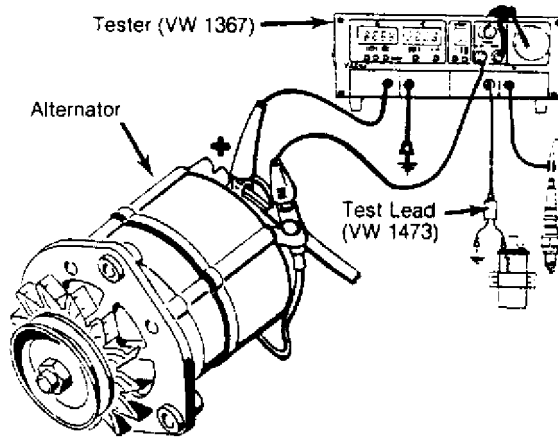

Fig. 2: Tester (VW 1367) & Test Lead (VW 1473)
6) Connect fuel pressure gauge and ensure system fuel pressure is correct. See FUEL SYSTEM in F - BASIC TESTING article in the ENGINE PERFORMANCE Section. Connect an inductive tachometer or Tester (VW 1367) and Test Lead (VW 1473). See Fig. 2.
alternator, Test Lead (VW 1473) to ignition coil, and timing light lead to No. 1 spark plug wire. See Fig. 2. Start engine and ensure engine speed and timing are correct. If NOT, adjust to specification.